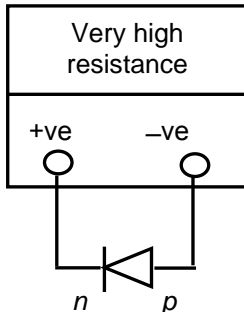

Fig. 9.11: Testing of a p - n junction diode in reverse bias.
5. Now, put the selector in the high resistance position. Reverse the connection, i.e., connect black lead to p -end and red lead to n -end. You should get a very high resistance reading (Fig.9.11). If the meter indicates OL or a very high resistance, it means that the diode is working properly.